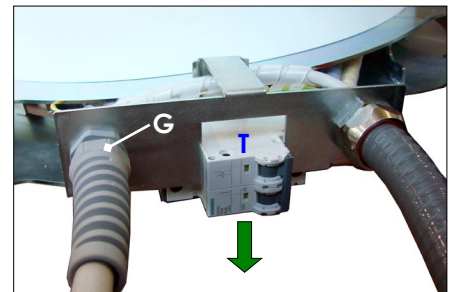
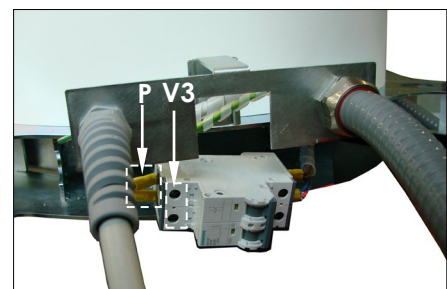

Fig.28
Fig.29
- Remove the remote switch (**T**) by pushing this downwards (Fig.28) in order to access screws (**V3**), Fig.29.
- Loosen the 2 screws (**V3**) and remove the 2 yellow terminals (**P**) for the 2 power wires (blue and brown wires), Fig.29.
- Undo the cable ring nut (**G**) and extract the cable you want to replace from the cable hole, Fig.28.